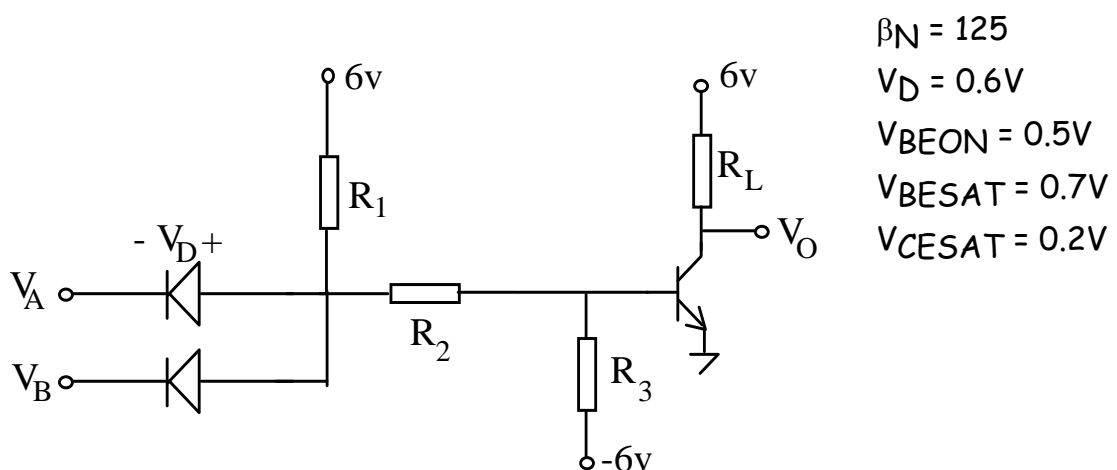

Figure 4 DTL NAND Gate.
Use the following procedure to design the DTL NAND gate in Figure 4:
3.4 Refer to Figure 4 and design a two input positive logic DTL NAND gate due to the following specifications (choose the resistor values from the component list given at the end of the experiment):